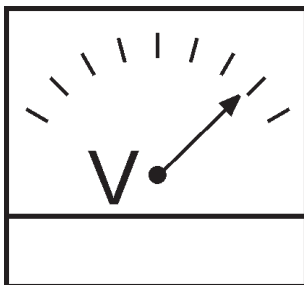

Figure 14. AC Voltmeter
3. Observe that the output voltage either increases or decreases by monitoring the voltmeter (Figure 14) reading.